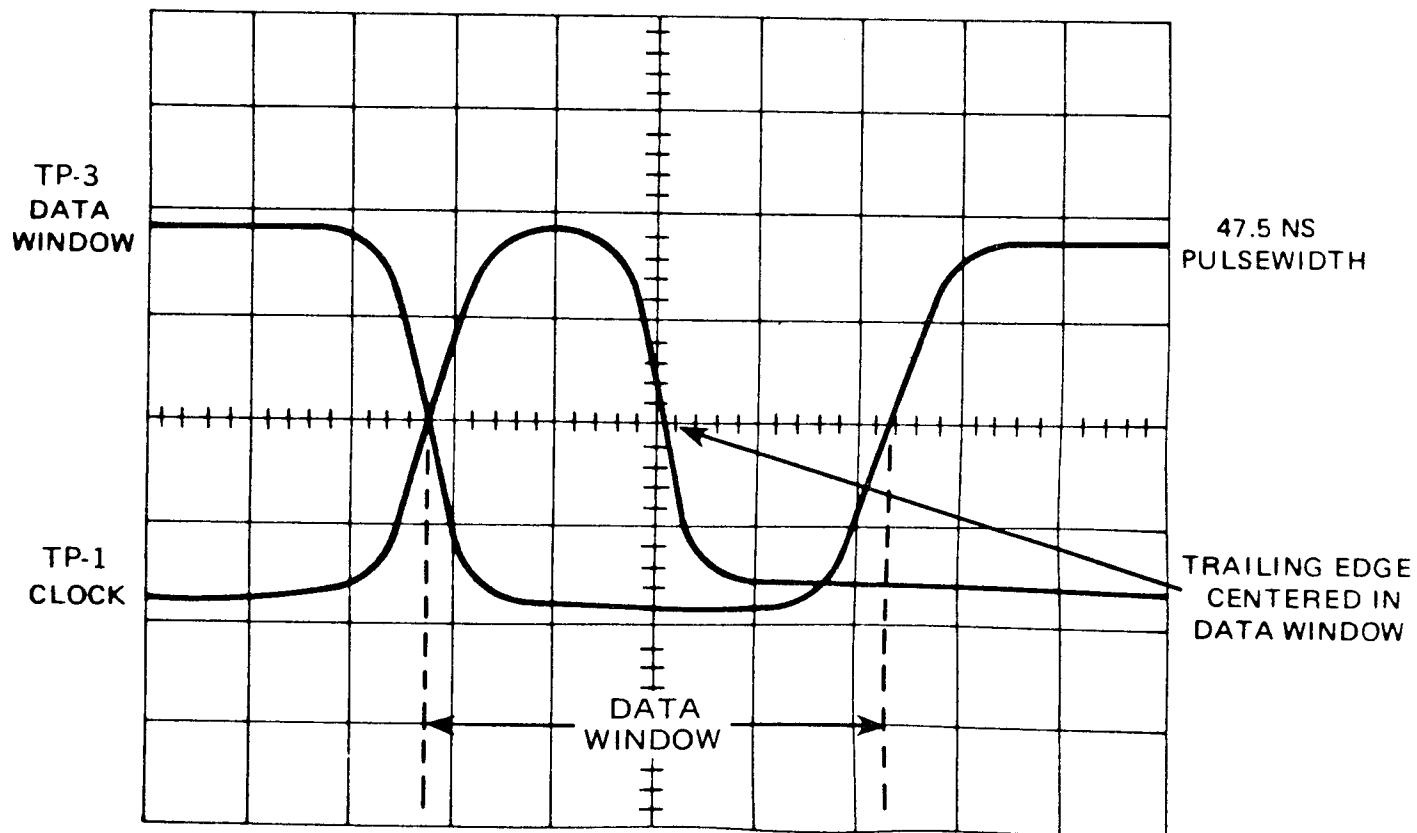

Figure 3-8. Data Window/Clock Relationship
19. Adjust the scope's position controls for the display shown in Figure 3-8.